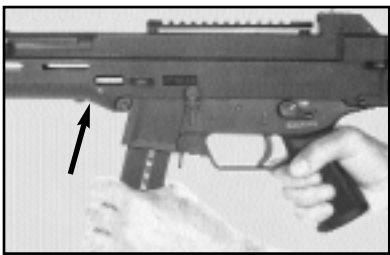

Fig. 22 Insert magazine
- Insert magazine into the magazine well (Fig. 22). The magazine catch has to engage audibly in the process. Tug on the magazine to ensure it is fully engaged.